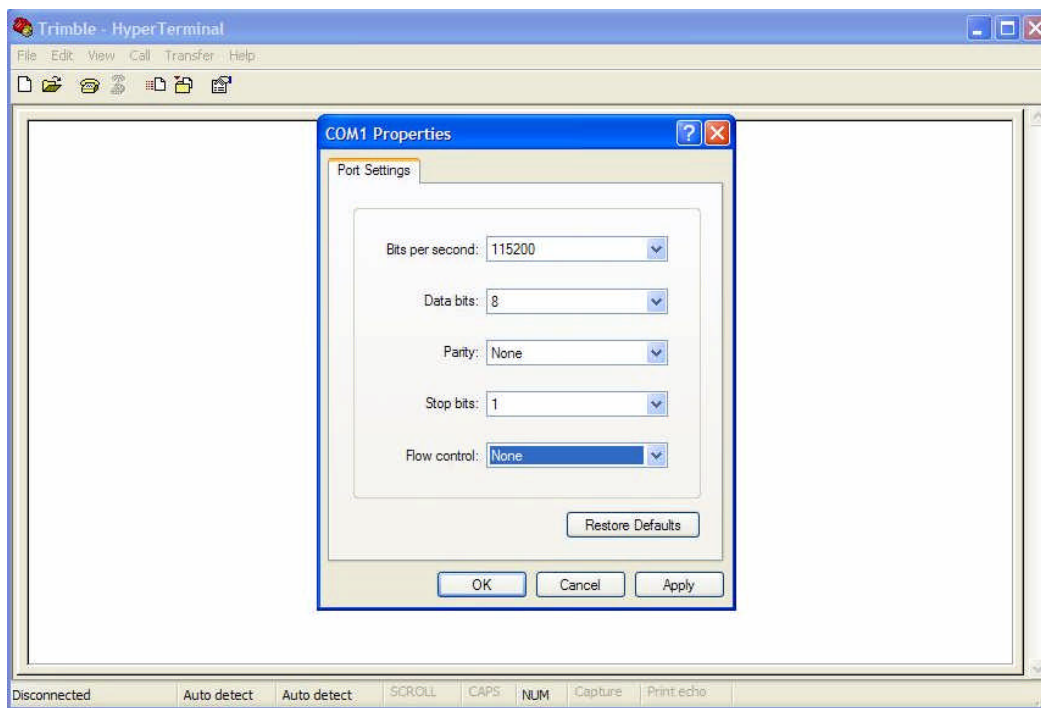

Figure 7. MS-Windows HyperTerminal Configuration
- d. In MS-Windows, use HyperTerminal to configure a session to access the Trimble GPS receiver via the RS-232 port to which NetRS is connected. The HyperTerminal program is located in the **Accessories** and **Communication** menus. Configure the HyperTerminal session as shown in Figure 7. Select the COM Port to which the GPS receiver is connected. By default, GPS receiver has 115200 baud rate, 8 data bits, No parity and flow control OFF. Click on the **OK** button.